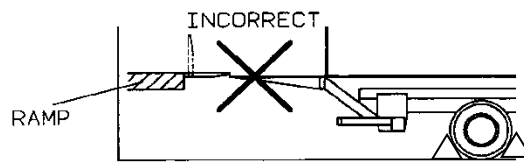

FIG. 3
- Never place drive-over plates or link bridge on the platform tip without supporting the tip. The platform tip must always be supported. (Fig. 3)